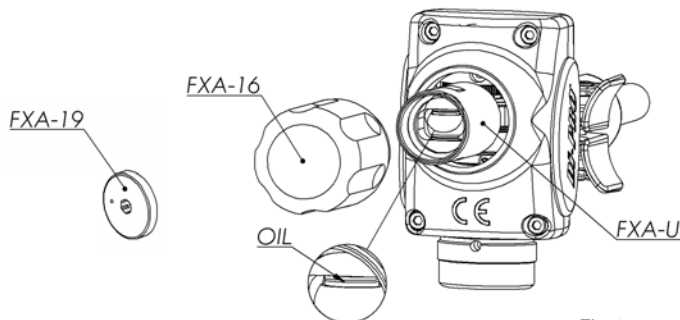

Fig. 9
6. Unscrew the counterweight casing (FXA-16), and eventual counterweight inserts (FXA-19). Also see Fig.9
7. Apply a few drops of oil type FNA-K or equivalent on both sides of the needle-bearing (44040) in the counterweight (FXA-U). According to fig. 9